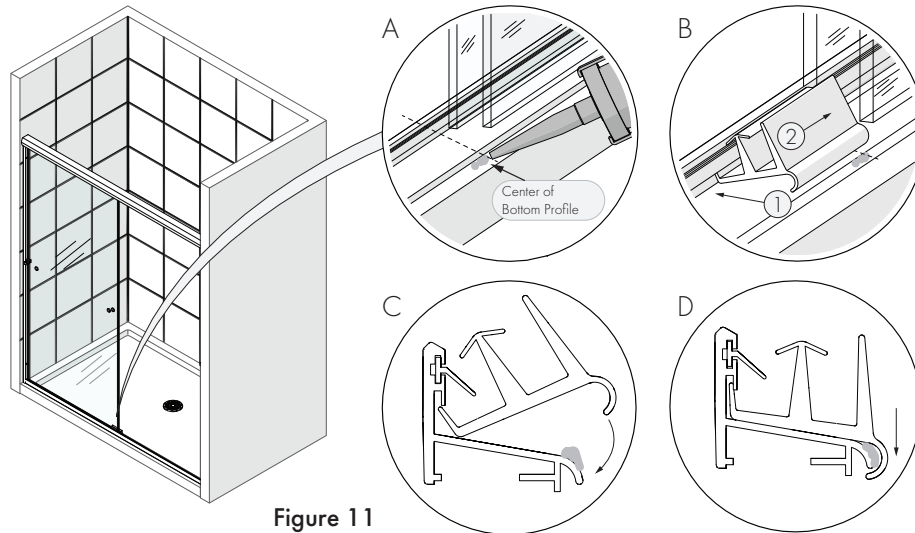

Figure 11
- B. (1) Insert the front lip of the *Center Guide* into the slot on the inside of the *Bottom Profile* and snap the *Center Guide* down over the inside of the *Bottom Profile*. (2) Move the installed *Center Guide* to the center of the *Bottom Profile*, halfway beneath the door glass. As an option, drill a  $\varnothing$  1/8" hole through the *Center Guide* and into the *Bottom Profile*. Install a #6 x 3/8" *Pan Head Screw*– #07. Fig 11